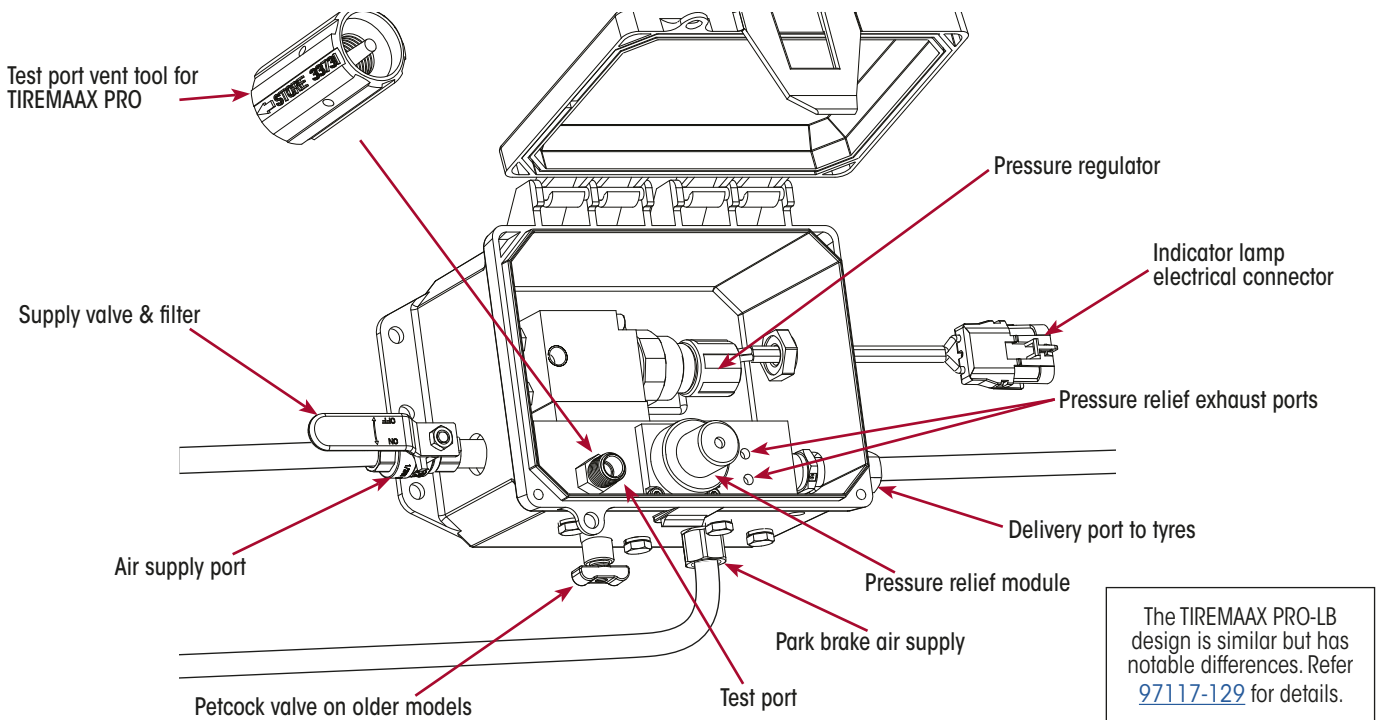
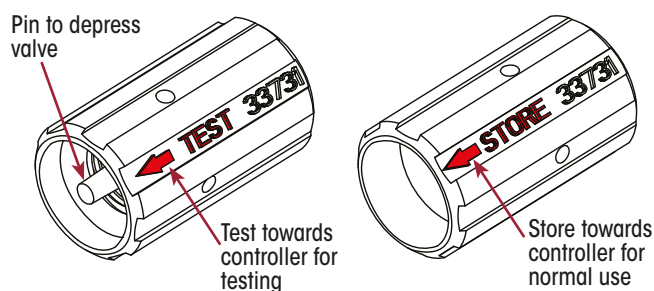

Figure 207: TIREMAAX PRO Controller Components
Figure 212: Later TIREMAAX PRO Test Port Vent Tool
- 2b. Later TIREMAAX PRO systems have a test port that covered by a test port vent tool. To enable the test port, remove the tool from the test port and turn it around so that the pin on the tool presses on the test port valve. If in doubt, refer to the inherent marking on the side of the test port tool. Refer Figure 207 and Figure 212.